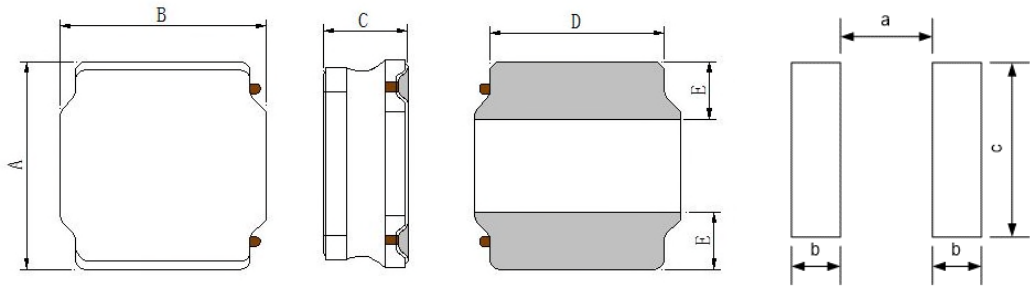

Fig.4-1
- 1) Dimensions and recommended PCB pattern for reflow soldering, please see **Fig.4-1** and **Table 4-1**.